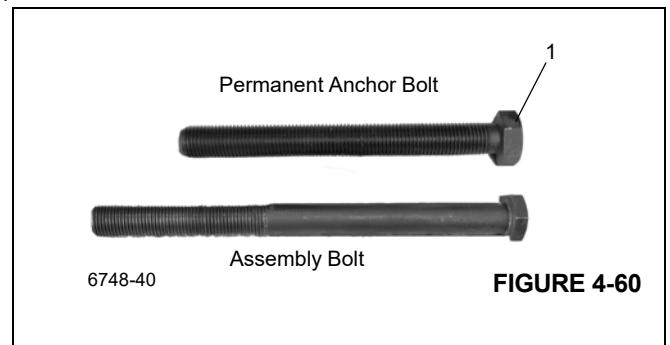

FIGURE 4-60
21. Install the adjusting bolt (1), (Figure 4-60) to the anchor assembly.